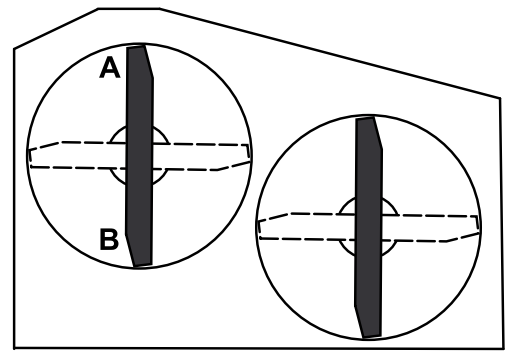

Figure 58
- Position 1 blade front-to-rear. Measure at **A** and **B** locations from a level surface to the cutting edge of the blade tips (Figure 58).